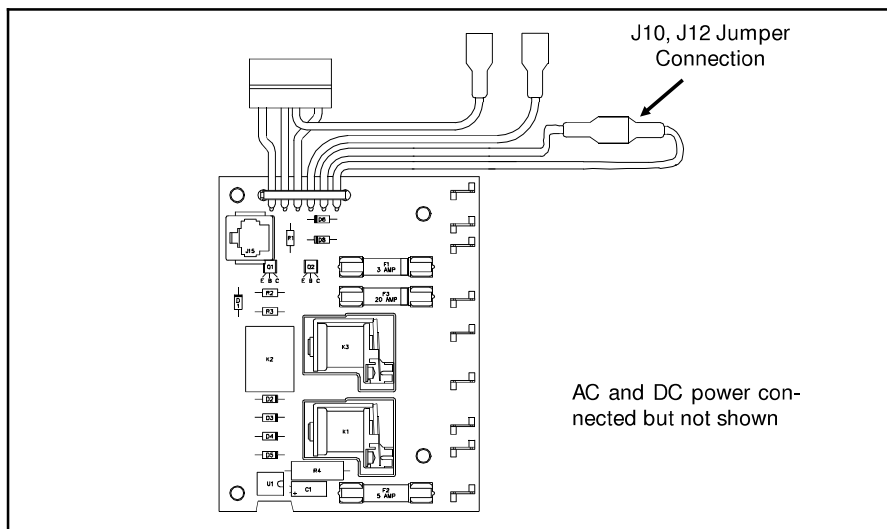
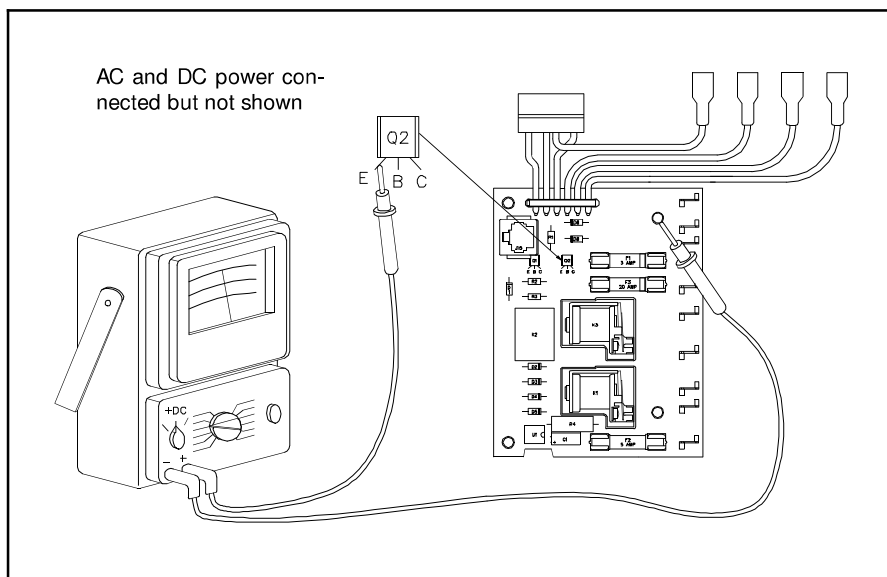

Figure 11.36 Single Door Power Supply
Figure 11.37 12 Volt Check at Q2 Emitter
7. For the single door models, check that the two blue wires terminals J10 and J12 are connected together as shown by Figure 11.36.
8. With the volt-ohm-meter set to measure 11-12 volts DC check for 12 volts at the emitter of transistor Q2 as shown in Figure 11.37. If you do not have 11-12 volts as shown, connect J10 and J12 together as shown in Figure 11.36 (2 door models only).